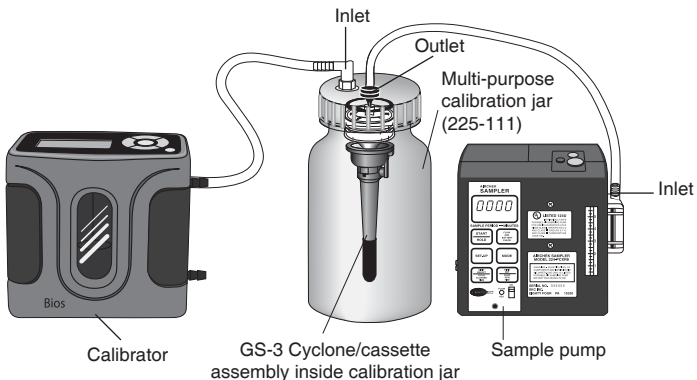

Figure 3
Option 1: Using a Calibration Jar (Figure 3)
2. Place cyclone/cassette assembly into an airtight calibration jar that contains an inlet and outlet (SKC Cat. No. 225-111, see Figure 3).